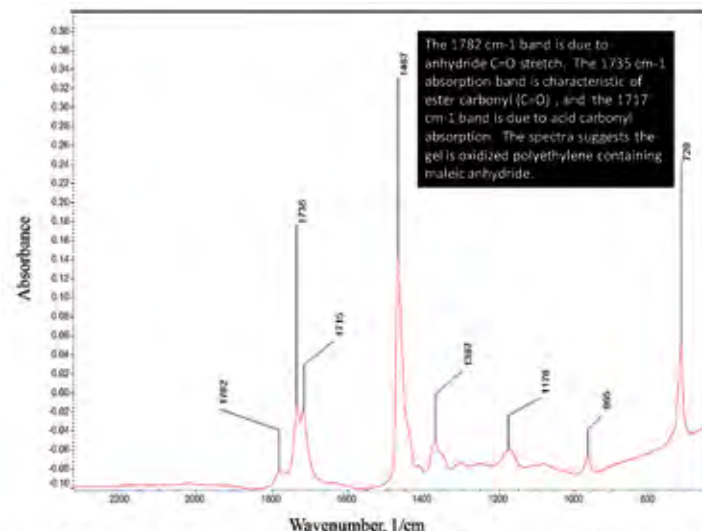

Figure 3. The micro-infrared spectrum of gel shown in Figure 2. The spectrum suggests it is an oxidized polyethylene gel containing maleic anhydride.
The most common type of gel is caused by oxidative processes that crosslink the PE chains. The best way to identify this gel type is by observing them with polarized light and ultraviolet (UV) light sources. Transmitted polarized light microscopy represents an effective technique [7] that can be used to investigate structures in crystalline films. For example, black speck gels were contaminating a multilayer film product. The gels were relatively brittle when cut for analysis. The source was unknown. The detail of a gel is clearly visible using transmitted polarized light, as shown in Figure 2a. Close examination of this gel using epi-fluorescence with an ultraviolet light source caused an intense fluorescence emission, as shown in Figure 2b. This type of emission suggests thermal oxidation and crosslinking of the polymer. Micro-infrared analysis of the gel indicated that it contained oxidized PE and maleic anhydride, as shown by the spectrum in Figure 3 (for clarity, this figure can be found at the end of this paper). This material likely formed on the metal surfaces of the extruder and then flaked off during a minor process instability. The material then flowed downstream and contaminated the film as a gel.